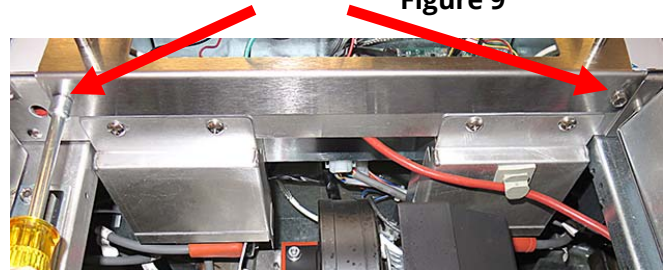

Figure 11
12. Remove the bezel by removing the two 5/16" screws on the bottom of the bezel (see Figure 11) and tilting the bezel up from the bottom and lowering towards the front of the fryer (see Figure 12).